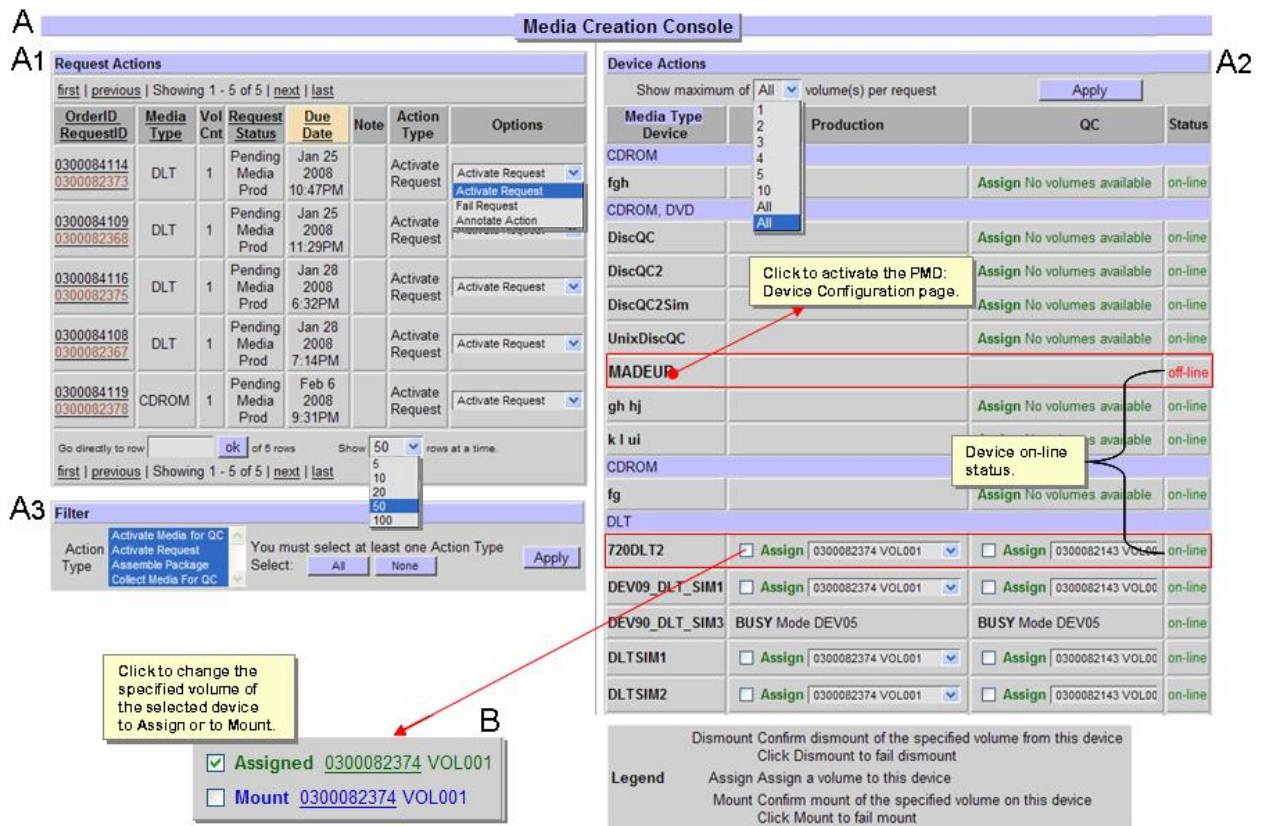

Figure 15.12-1. Media Creation Console Page
The **Media Creation Console** page (Figure 15.12-1, Frames A-A3) provides the full-capability Operator with the ability to perform various types of media creation actions from one interactive console.
- The **Media Creation Console** page (Figure 15.12-1, Frame A) displays.